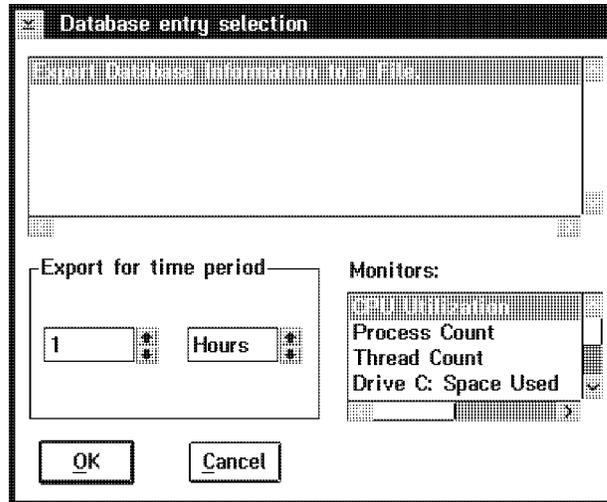

Figure 50. Export to Database Option
2. Select from the Monitors field (see Figure 50) the names of the monitors from which the data will be exported.
Monitors window. To export data from an individual monitor (see Figure 50 on page 61):
In the Database entry selection window (see Figure 50 on page 61), we can set: